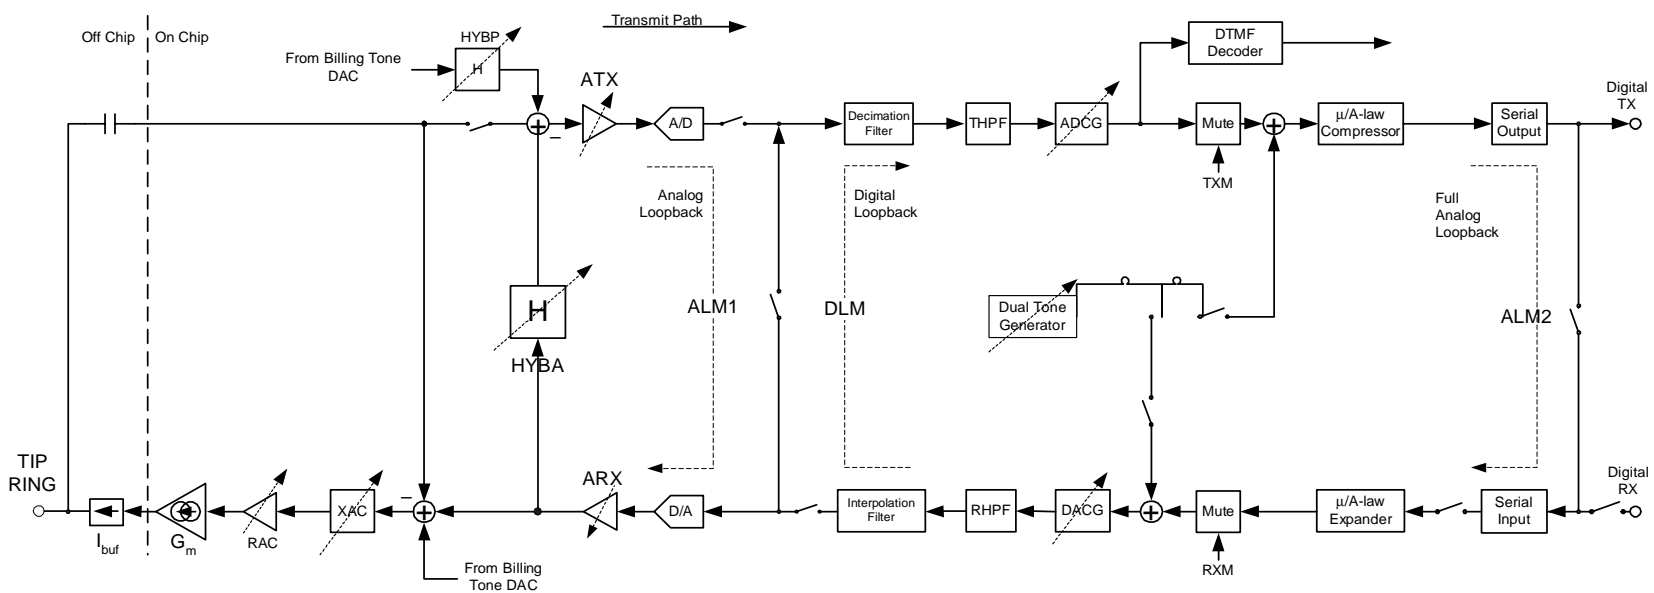

Figure 23. AC Signal Path Block Diagram
Unlike traditional SLICs, the codec function is integrated into the ProSLIC. The 16-bit codec offers programmable gain/attenuation blocks and several loop-back modes. The signal path block diagram is shown in Figure 23.
The block diagram for the voice-band signal processing paths are shown in Figure 23. Both the receive and the transmit paths employ the optimal combination of analog and digital signal processing to provide the maximum performance while, at the same time, offering sufficient flexibility to allow users to optimize for their particular application of the ProSLIC. All programmable signal-processing blocks are symbolically indicated in Figure 23 by a dashed arrow across them. The two-wire (TIP/RING) voice-band interface to the ProSLIC is implemented using a small number of external components. The receive path interface consists of a unity-gain current buffer, I_{BUF} , while the transmit path interface is simply an ac coupling capacitor. Signal paths, although implemented differentially, are shown as single-ended for simplicity.
The ProSLIC provides programmable transhybrid balance with gain block H. (See Figure 23.) In the ideal case where the synthesized SLIC impedance matches exactly the subscriber loop impedance, the transhybrid balance should be set to subtract a −6 dB level from the transmit path signal. The transhybrid balance gain can be adjusted from −2.77 dB to +4.08 dB around the ideal setting of −6 dB by programming the HYBA[2:0] bits of the Hybrid Control register (direct Register 11). Note that adjusting any of the analog or digital gain blocks will not require any modification of the transhybrid balance gain block, as the transhybrid gain is subtracted from the transmit path signal prior to any gain adjustment stages. The transhybrid balance can also be disabled, if desired, using the appropriate register setting.
- The full analog loopback (ALM2) tests almost all the circuitry of both the transmit and receive paths. The compressed 8-bit word transmit data stream is fed back serially to input of the receive path expander. (See Figure 23.) The signal path starts with the analog signal at the input of the transmit path and ends with an analog signal at the output of the
- An additional analog loopback (ALM1) takes the digital stream at the output of the A/D converter and feeds it back to the D/A converter. (See Figure 23.) The signal path starts with the analog signal at the input of the transmit path and ends with an analog signal at the output of the receive path. This loopback option allows the testing of the analog signal processing circuitry of the Si3210 completely independent from any activity in the DSP.
- The full digital loopback tests almost all the circuitry of both the transmit and receive paths. The analog signal at the output of the receive path is fed back to the input of the transmit path by way of the hybrid filter path. (See Figure 23.) The signal path starts with 8-bit PCM data input to the receive path and ends with 8-bit PCM data at the output of the transmit path. The user can bypass the companding process and interface directly to the 16-bit data.
Real and complex two-wire impedances are realized by internal feedback of a programmable amplifier (RAC) a switched capacitor network (XAC) and a transconductance amplifier (G_m). (See Figure 23.) RAC creates the real portion and XAC creates the imaginary portion of G_m 's input. G_m then creates a current that models the desired impedance value to the subscriber loop. The differential ac current is fed to the subscriber loop via the ITIPP and IRINGP pins through an off-chip current buffer (I_{BUF}), which is implemented using transistor Q1 and Q2 (see Figure on page 16). G_m is referenced to an off-chip resistor (R_{15}).